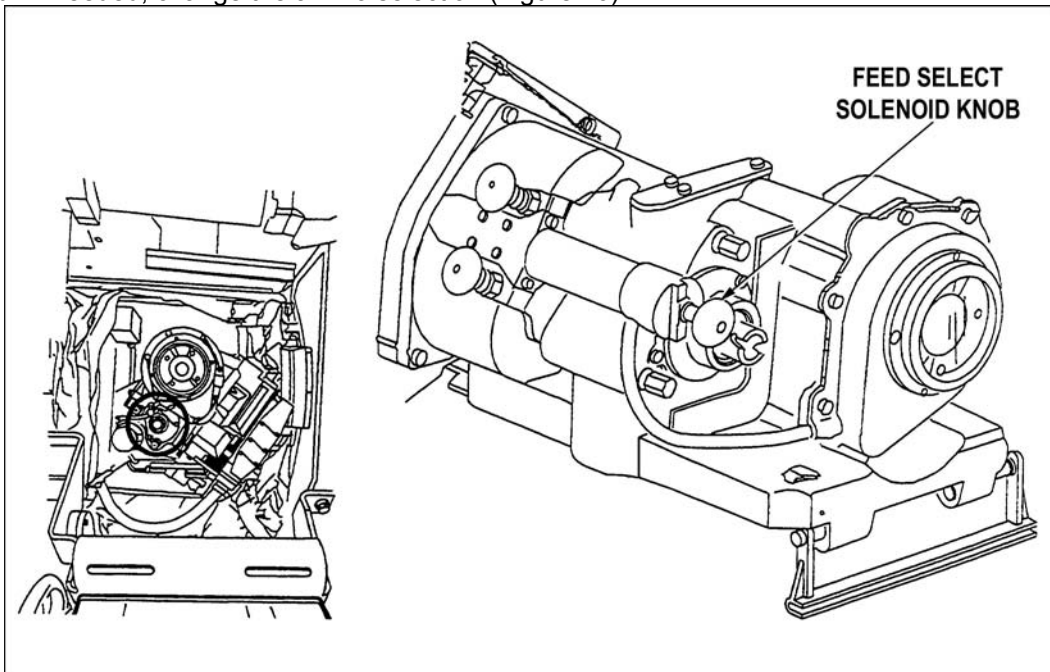

Figure 20. Feed select solenoid knob.
- (1) Check that the DEGRADED GUN indicator light is flashing.
- (2) If the DEGRADED GUN indicator light is on steady, move the ARM-SAFE-RESET switch to RESET, and release it back to SAFE.
- (3) If DEGRADED GUN indicator light is not flashing, use manual mode.
- b. If needed, change the ammo selection (Figure 20).